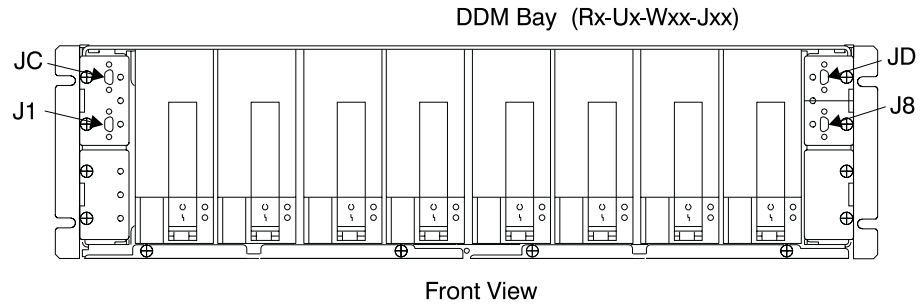

Figure 45. DDM bay SSA Connectors (S007693I)
1. Locate the SSA cables displayed on the service terminal as possible FRUs. For this isolation procedure, one of the SSA cables is connected between a DDM bay and an SSA device card. The other SSA cable is connected between the same DDM bay and another DDM bay. The service terminal will identify the drawer and its SSA connector, and the SSA device card and its SSA connector. To locate a drawer see "Locating a DDM Bay or SSA DASD Model 020 or 040 Drawer in a 2105 Rack" in chapter 7 of the *Enterprise Storage Server Service Guide, Volume 3*. To locate SSA cable connectors on a drawer, see Figure 45 on page 119.